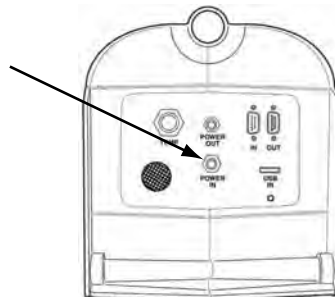
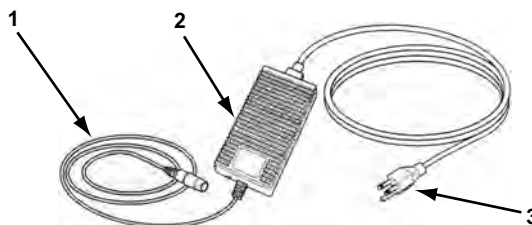

Figure 2-10 Power In connector on side of FGA unit
Figure 2-12 Battery Power Adapter
5. Connect the long yellow 13.2V power cord (Figure 2-9) to the POWER IN connection on the cable connection panel (Figure 2-10).
The cable connection panel is on the opposite end of the analyzer from the filter bowl (Figure 2-10).
- Plug one end of the battery power adapter (Figure 2-10) into an 115V AC outlet, and the other end into the Power In socket on the FGA unit connection panel (Figure 2-12).